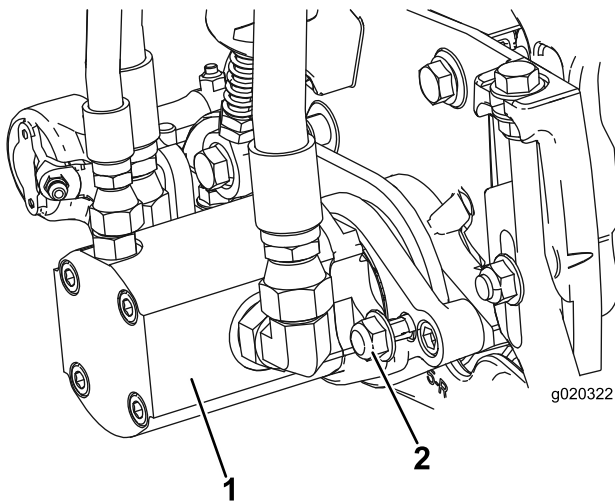

Figure 10
15. Install the motor by rotating it clockwise so that the motor flanges clear the locknuts (Figure 10). Rotate the motor counterclockwise until the flanges encircle the nuts then tighten the nuts.